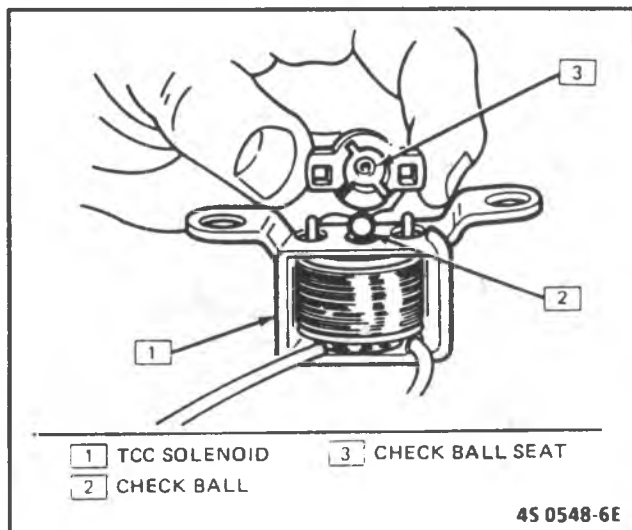

Figure 32 — TCC Solenoid
- The ECM completes a ground circuit, to energize a TCC apply solenoid in the transmission, which moves a check ball in a fluid line (Figure 32). This allows the converter clutch to apply, if the hydraulic pressure is correct, as described above.